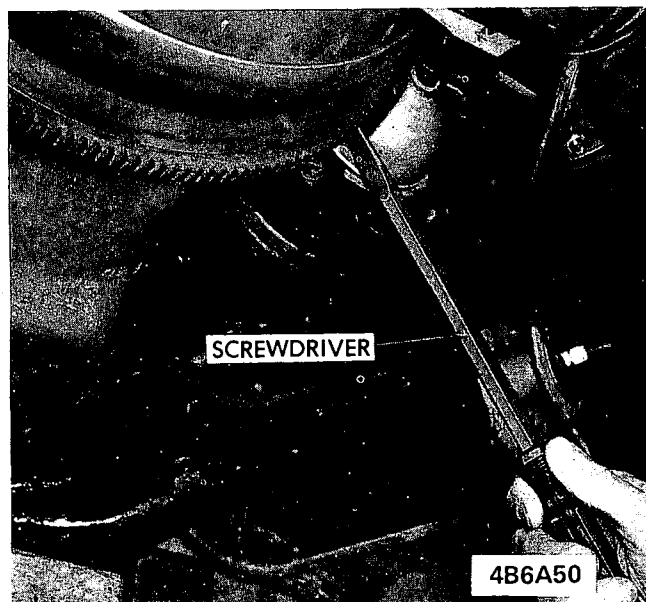

Figure 6A-97 - Locking Flywheel to Torque Harmonic Balancer Bolt.(350 cu.in. Shown)
5. Install harmonic balancer, bolt and washer. By using a screwdriver or other suitable tool, lock flywheel and torque bolt to specification. See Figure 6A-97.